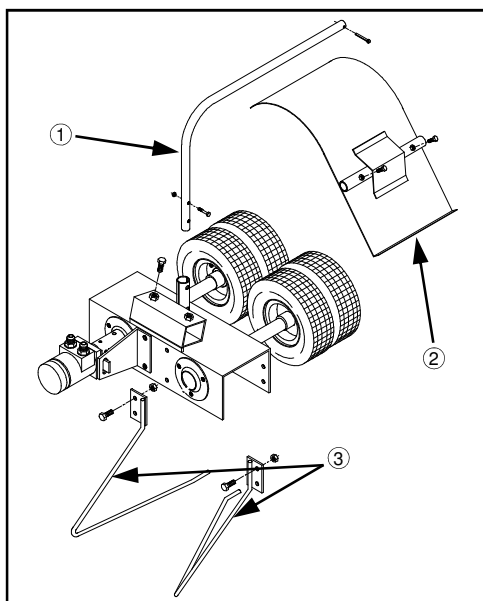

FIG 4.12
2. Install the stalk guides to the quad puller head assembly (fig. 4.12, item 3).
3. Attach the deflector shield mount tube (fig. 4.12, item 1) and the deflector shields for right or left hand deflection (fig. 4.12, item 2).